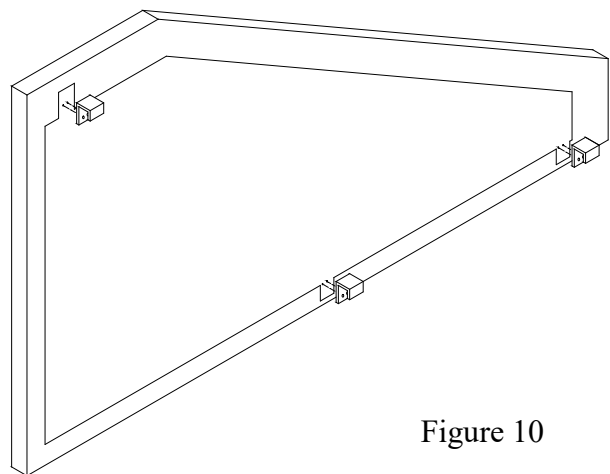

Figure 10
21. Install *Padding Brackets* (Q) on the *Front* and *Side Pads* (N) with *1/4"-20 Flat Head Screws* (O). Then install *Front*, *Side*, and *Arm Pads* (N). See Figure 10.